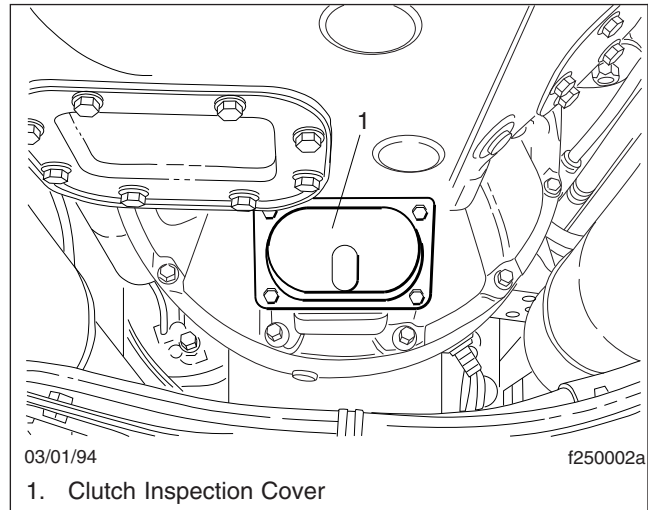

Fig. 6, Remove the Clutch Inspection Cover
1. Remove the clutch inspection cover from the bell housing. See Fig. 6.